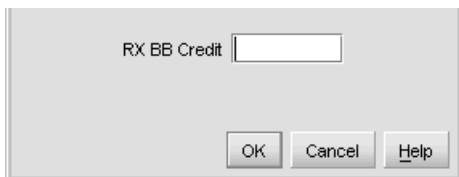

Figure 35 RX BB Credit dialog box
- a. Right-click in the RX-BB Credit column to display the RX BB Credits dialog box as shown in Figure 35: